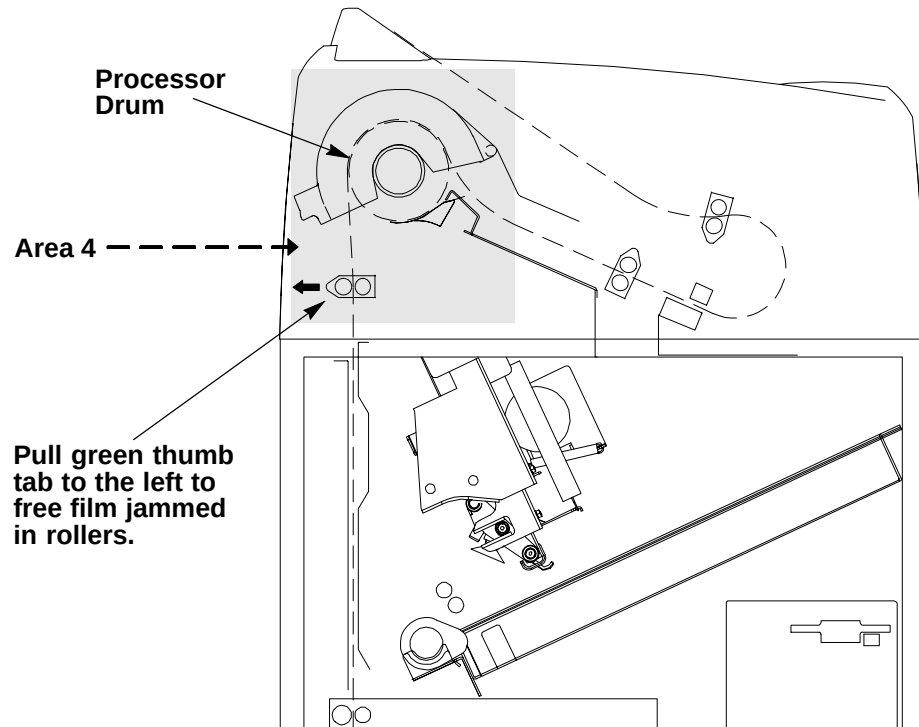

Figure 5-6. Jam Area 4
3. Clear the jammed film from the processor area. (There may be more than one sheet.) If film is jammed in the drive rollers (see Figure 5-6), pull the green thumb tab to the left to open the rollers and free the film.